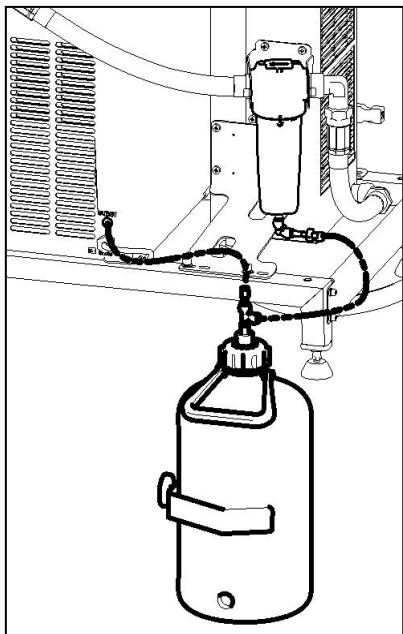

Fig.11
- Connect the hoses from the water separator and the condensate drain from the dryer to connectors at the canister valves (Fig.11).